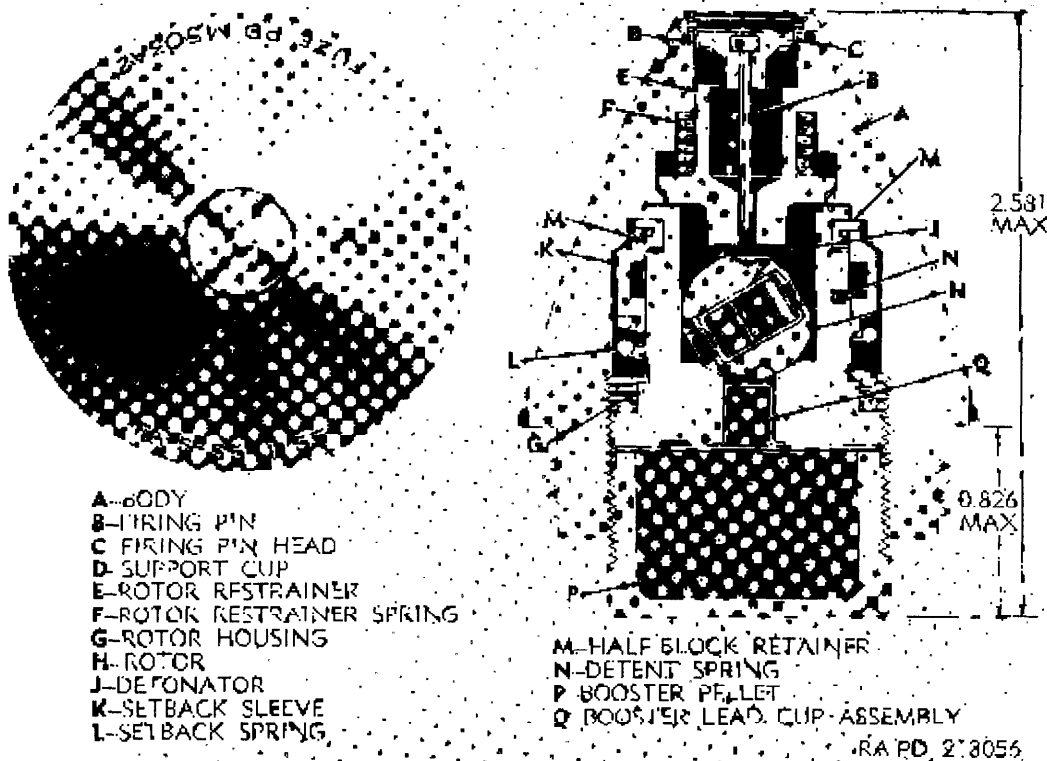

Figure 27. Fuze, PD: M503A2—rotor in unarmed position.
a. *General.* The fuze M503A2 (fig. 27) is a single-action, superquick type which functions by impact or graze after an arming delay, which is in effect for about 60 feet from the rifle; being reliably armed in 100 feet. The fuze is provided for use with 57-mm rifle projectiles. The fuze M503A2 differs from the fuzes M503 and M503A1, principally, in having a setback sleeve, a setback spring, and half-block retainers which provide added safety.
Note. The key letters shown below in parentheses refer to figure 27.